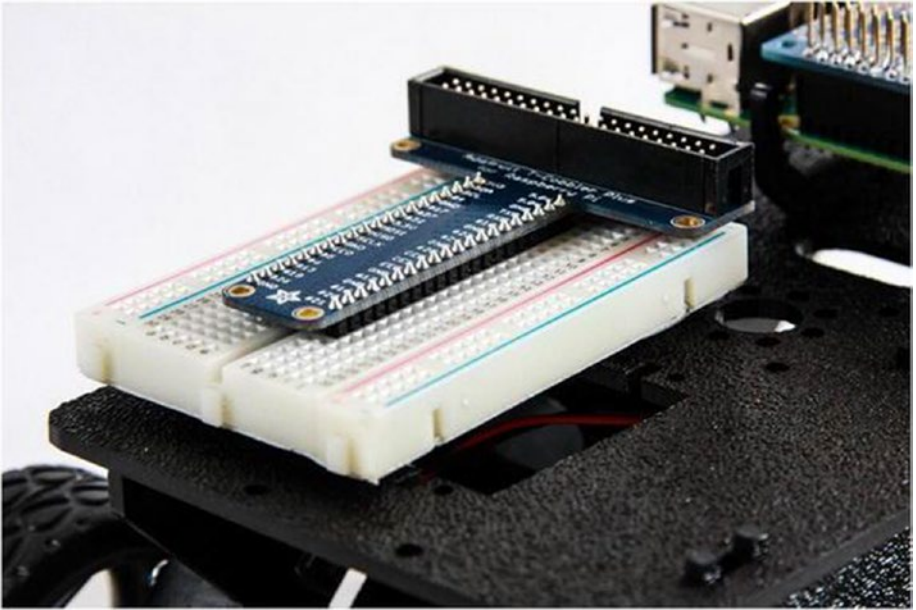

Figure 7-13. *Mounted breadboard. Note that the T-Cobbler has been moved forward to allow room for the power pack*
3. Remove the protective paper from the bottom of the breadboard and press the breadboard firmly into the T-shaped tape on the top plate (see Figure 7-13).